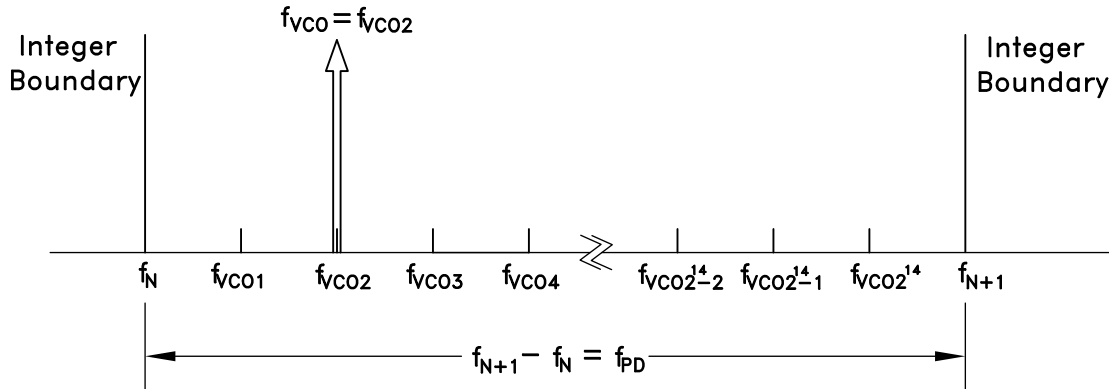

Figure 47. Exact Frequency Tuning
and f_{VCOk} are the channel step frequencies where $0 < k < 2^{24}-1$, As shown in Figure 47.
Some fractional PLLs are able to achieve this by adjusting (shortening) the length of the Phase Accumulator (the denominator or the modulus of the Delta-Sigma modulator) so that the Delta-Sigma modulator phase accumulator repeats at an exact period related to the interval frequency ($f_{VCOk} - f_{VCO(k-1)}$) in Figure 47. Consequently, the shortened accumulator results in more frequent repeating patterns and as a result often leads to spurious emissions at multiples of the repeating pattern period, or at harmonic frequencies of $f_{VCOk} - f_{VCO(k-1)}$. For example, in some applications, these intervals might represent the spacing between radio channels, and the spurious would occur at multiples of the channel spacing.
If it is desirable to have multiple, equally spaced, exact frequency channels that fall within the same interval (ie. $f_N \leq f_{VCOk} < f_{N+1}$) where f_{VCOk} is shown in Figure 47 and $1 \leq k \leq 2^{14}$, it is possible to maintain the same integer-N (Reg 03h) and exact frequency register (Reg 0Ch) settings and only update the fractional register (Reg 04h) setting. The Exact Frequency Channel Mode is possible if (EQ 16) is satisfied for at least two equally spaced adjacent frequency channels, i.e. the channel step size.
To configure the HMC832LP6GE for Exact Frequency Channel Mode, initially and only at the beginning, integer (Reg 03h) and exact frequency (Reg 0Ch) registers need to be programmed for the smallest f_{VCO} frequency (f_{VCO1} in Figure 47), as follows:
1. Calculate and program the integer register setting $\text{Reg 03h} = N_{INT} = \text{floor}(f_{VCO1}/f_{PD})$, where f_{VCO1} is shown in Figure 47 and corresponds to minimum channel VCO frequency. Then the lower integer boundary frequency is given by $f_N = N_{INT} \cdot f_{PD}$.
$$\text{Reg04h} = N_{FRAC} = \text{ceil} \left(\frac{2^{24} (f_{VCOk} - f_N)}{f_{PD}} \right) \quad \text{where } f_N = \text{floor}(f_{VCO1}/f_{PD}), \text{ and } f_{VCO1}, \text{ as shown in Figure 47, represents the smallest channel VCO frequency that is greater than } f_N.$$
4. To change from channel 1 ($f_{VCO1} = 2800.2$ MHz) to channel 2 ($f_{VCO2} = 2800.3$ MHz), only Reg 04h needs to be programmed, as long as all of the desired exact frequencies f_{VCOk} (Figure 47) fall between the same integer-N boundaries ($f_N < f_{VCOk} < f_{N+1}$). In that case